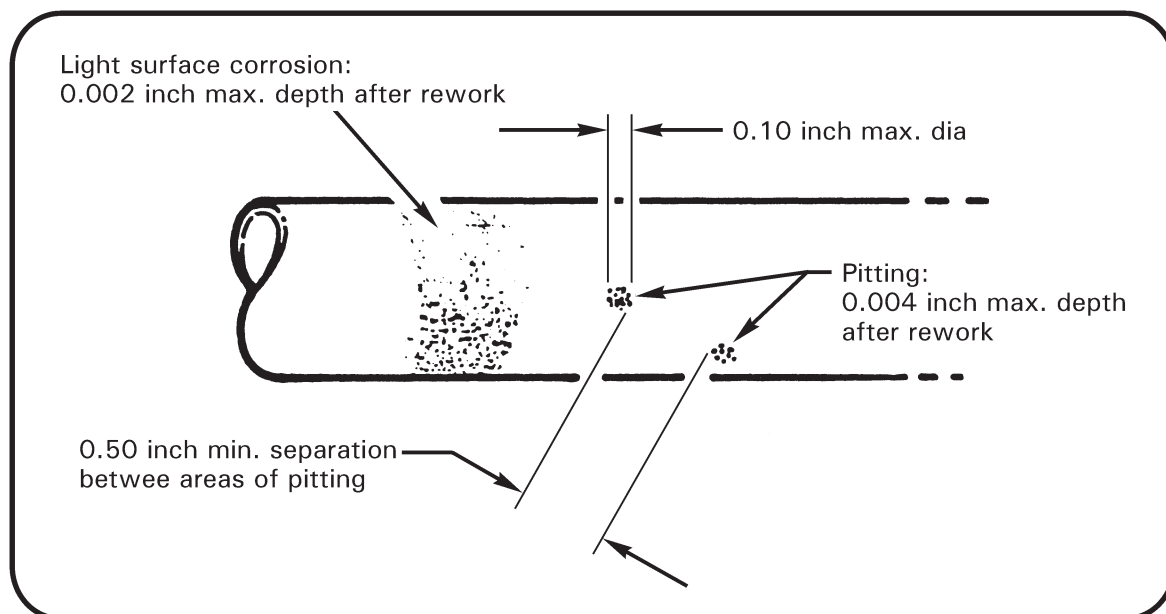

FIGURE 2-13 FRAME CORROSION AND REPAIR LIMITS
1. For large areas of corrosion, remove frame and strip paint using an approved paint stripper (ref. § 23-71) to determine full extent of corrosion. If corrosion exceeds Figure 2-13 limits, replace frame.
3. Polish out corrosion with 320-grit or finer wet-or-dry sandpaper. Measure frame member diameter at polished area(s). Compare with measurement(s) from step 2, and verify polish depth is within Figure 2-13 limits.